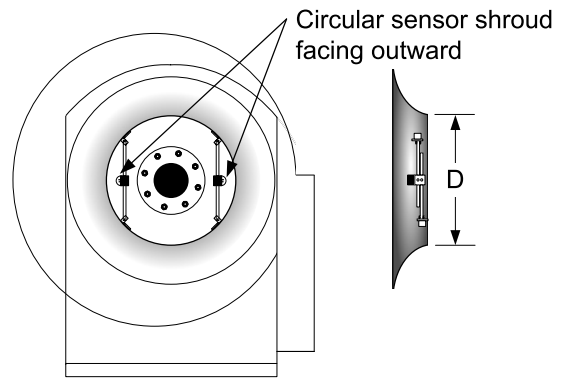
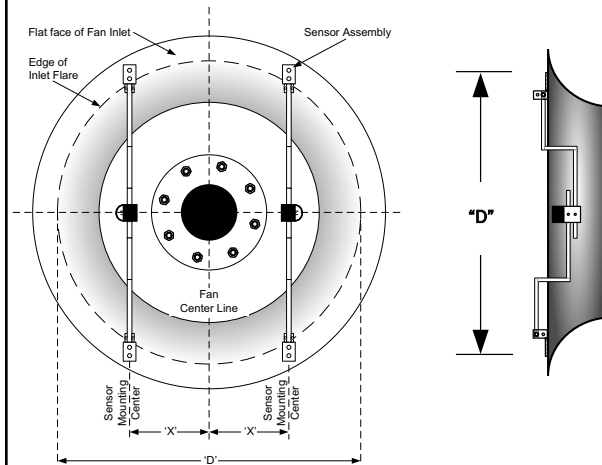
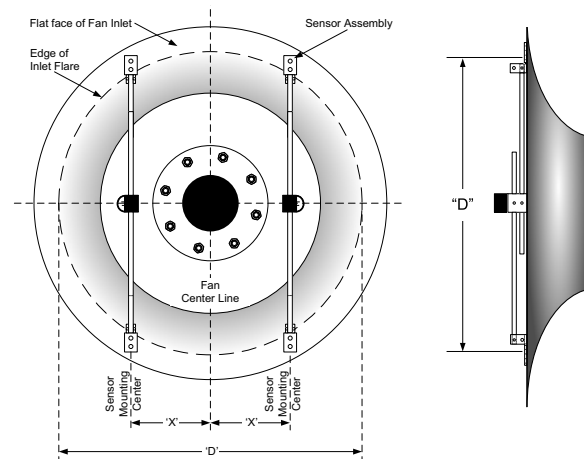

Figure 2. Centrifugal Fan Throat Mount
Figure 4. Face Mount
Figure 5. Forward Mount
The methods for measuring the diameters are different for each of the mounting applications. Identification of the rod types ensures that the correct application and sensor placement dimensions are provided. Throat mount sensors are supplied with straight rods and brackets for installation in the throat of the inlet cone as shown in Figures 2 and 3. Face mount sensors are supplied with rods that have an offset bend and brackets for mounting on the face of plenum fans as shown in Figure 4. Forward mount sensors are supplied with straight rods and brackets for mounting on the face of plenum fans as shown in Figure 5.
2. Measure the diameter ("D") of the inlet of the fan where the sensor assemblies will be installed as shown in Figures 2 and 3. Refer to Table 1 to verify that the proper sensors and rod 4 packs have been received.